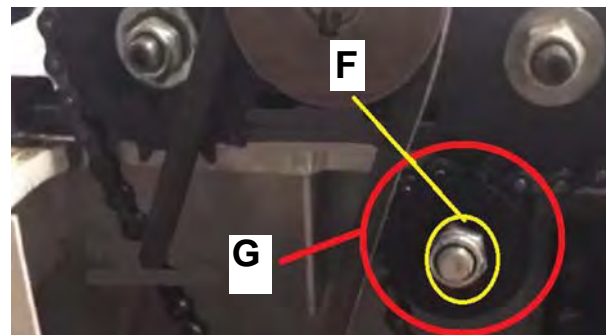
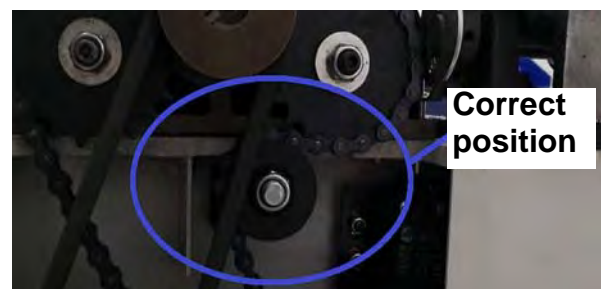

Fig. 26: Loosen gear
Fig. 27: Correct position of the gear
- Step 4: Loosen the screw (F, Fig.26) and push the gear to the left to increase the tension of the chain (G, Fig.26).
- Step 5: Tighten the screw (F, Fig.26) once the gear is in the correct position (Fig.27).